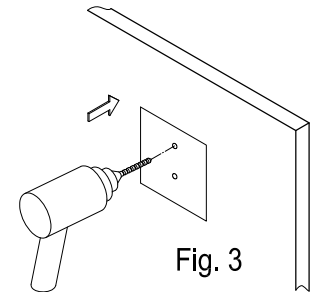

Fig. 3
- Step 4. Remove the mounting bracket from wall and use a 1/4" drill bit to pre-drill holes in the drywall where pencil marks are drawn (fig 3).